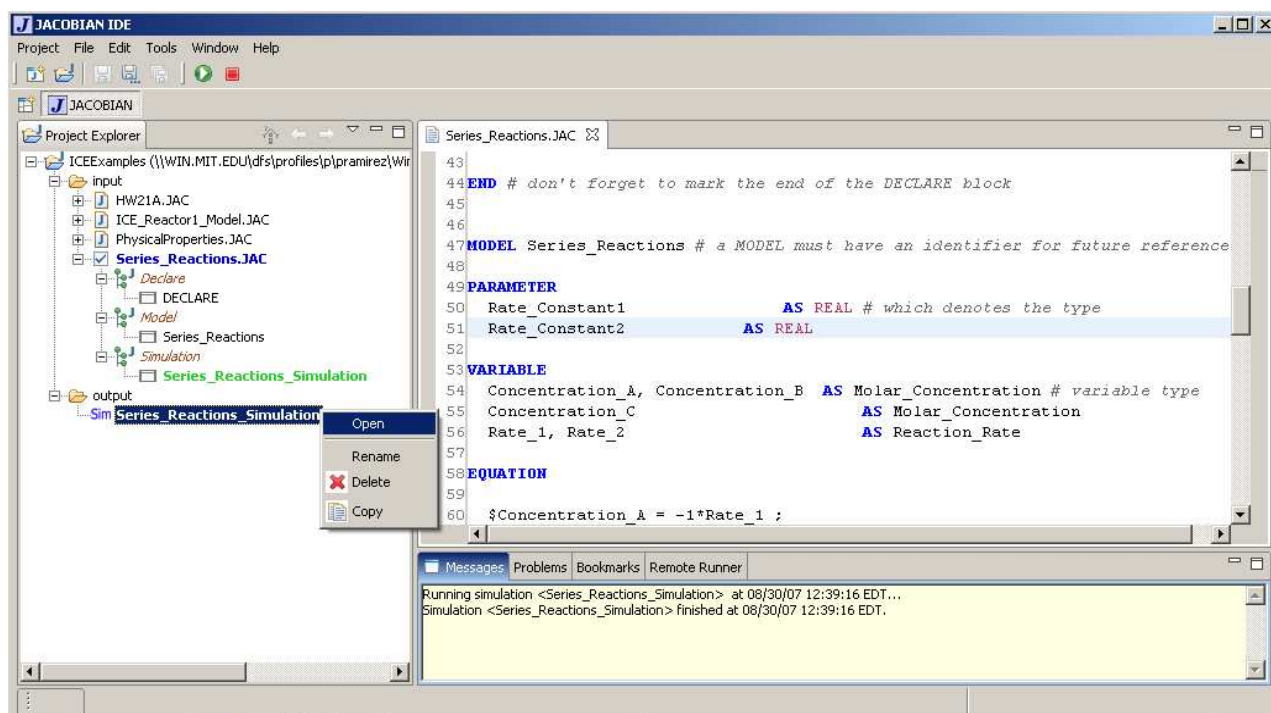

Figure 9: Pop-up menu for opening computation output.
The best way to view the results of a dynamic simulation is to generate graphs of the variation of the variables with time over the simulation. After a successful simulation, the output node in the Project Explorer tree will be updated with a highlighted node with the name of the computation just executed (Figure 9). Simulation results for this computation node can be viewed in the Main Workspace by:
- or right-clicking the computation name and select open from the pop-u menu (Figure 9).